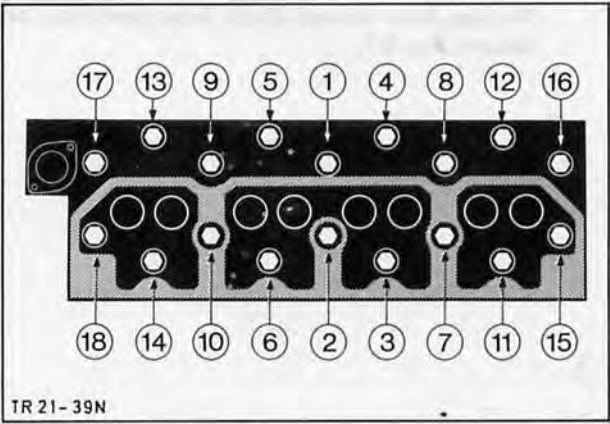

Fig. 90. Cylinder head bolt tightening sequence
68. Position cylinder head gasket with Part No. facing upwards and carefully locate cylinder head on guide sleeves, taking care to ensure correct assembly of by-pass hose. Fit cylinder head bolts in sequence shown in Fig. 90 and torque as specified in Technical Data.